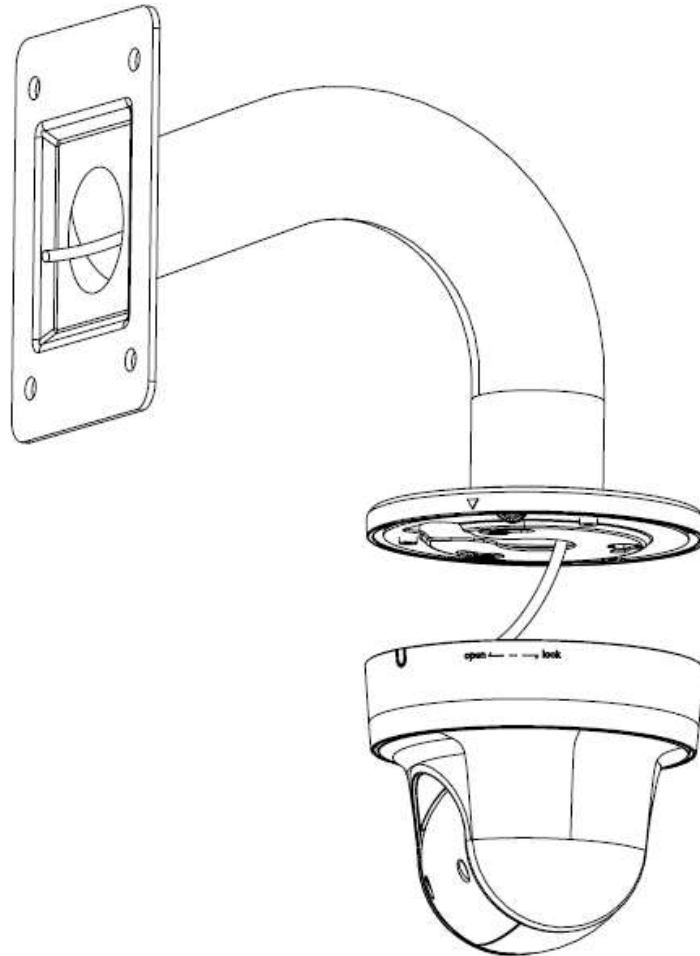

Figure 4-4
3) Insert three quick installation screws to the holes at the bottom of the pedestal. Pull the intelligent speed dome composite cable through the hanging mount and end of the column of the wall mount bracket and pull it out of the other end of the wall mount bracket. Line up the three quick installation screws at the bottom of the pedestal and the concave to the three holes and the U slot at the sheet metal respectively. Turn counter clockwise to secure the speed dome and the sheet metal closely. See Figure 4-4.